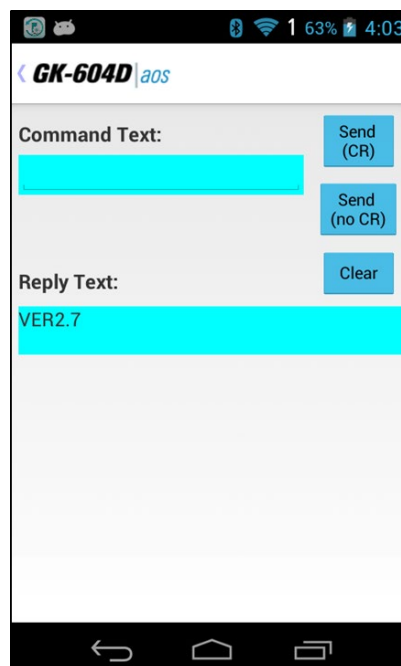

Figure 50 - Terminal Window
If a connection is made, the “Terminal Window” will be displayed (Figure 50). Use the on-screen keyboard to enter a one or two-character command into the “Command Text” field. After typing in a command, tapping the “Send (CR)” button will cause the command to be sent to the Remote Module. Figure 50 shows the response to a sent command of “4” (Firmware Version command).